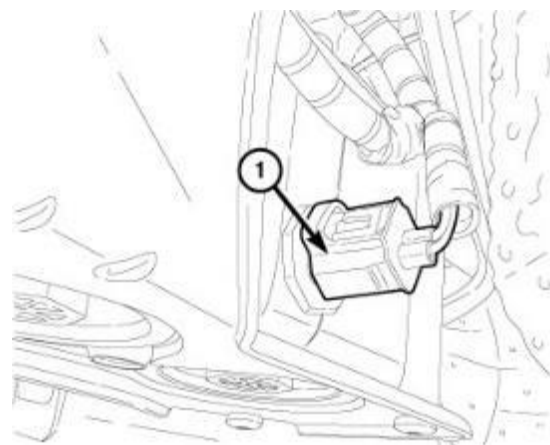

Figure 52 – WIF Sensor Connector
- 97. Disconnect the Water In Fuel (WIF) sensor wire harness connector (1) (Figure 52).
110. Connect the Water In Fuel (WIF) sensor wire harness connector (1) (Figure 52).